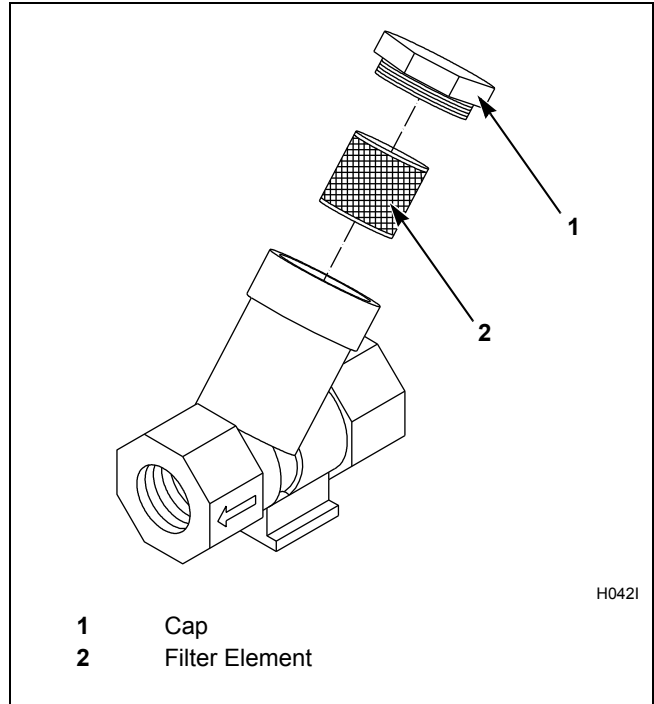

Figure 9
5. Clean customer-supplied steam filter, where applicable. Refer to *Figure 9*.